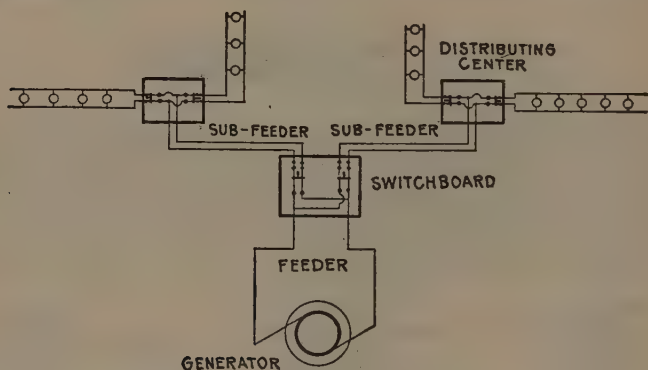

FIG. 994.—Two wire multiple system as used with isolated plant.
**Ans.** The two wire multiple system as shown in fig. 994.